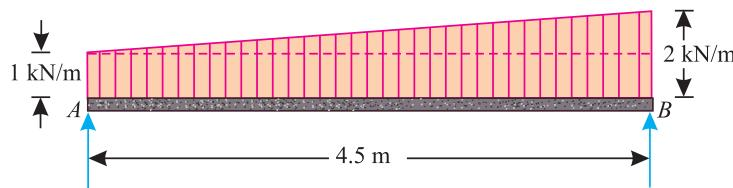

Fig. 12.9.
**Example 12.3.** A simply supported beam  $AB$  of span 4.5 m is loaded as shown in Fig. 12.9.